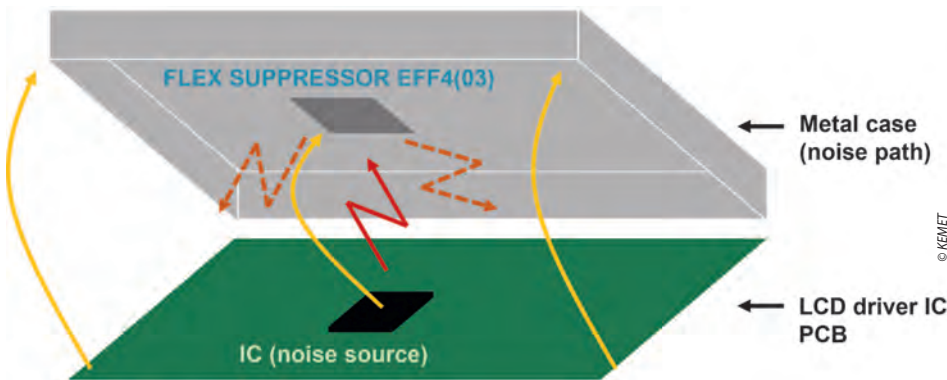

Figure 2 The EMI emissions of the IC are reduced by placing a piece of Flex Suppressor (e.g. EFF4(039)) directly above the interference source.
An application scenario is shown in Figure 2. In this case, the integrated circuit (IC) is the noise source.